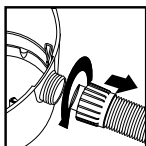

FIGURE 25
38. Unscrew hose locking-nut and remove hose from inlet. **FIGURE 25.**